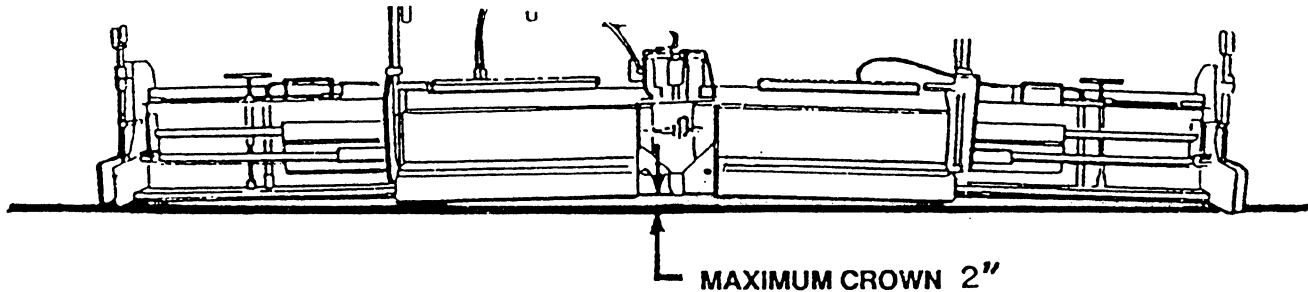

FIGURE 28
10. Set crown control. The screed plate is a one-piece unit which is actually bent to provide the required crown setting. See figures 28 and 29.
11. To get exact crown or valley measure the distance between a flat level surface to the center bottom portion of screed. See figure 28. Make adjustments with crown and valley control.